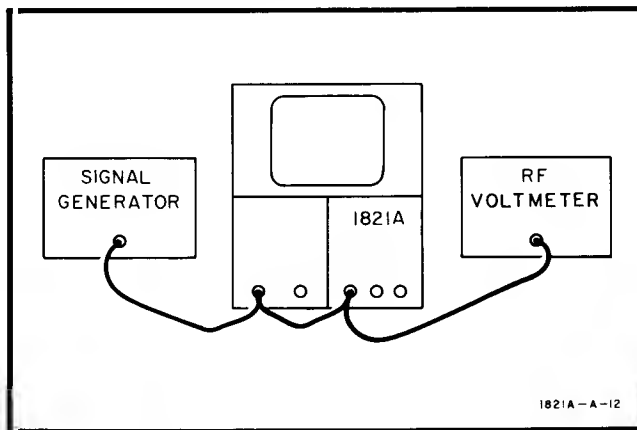

Figure 5-1. Main Triggering Test Set-Up
- a. Connect Signal Generator output and RF Voltmeter input to Channel A Input and Main EXT INPUT as shown in Figure 5-1.